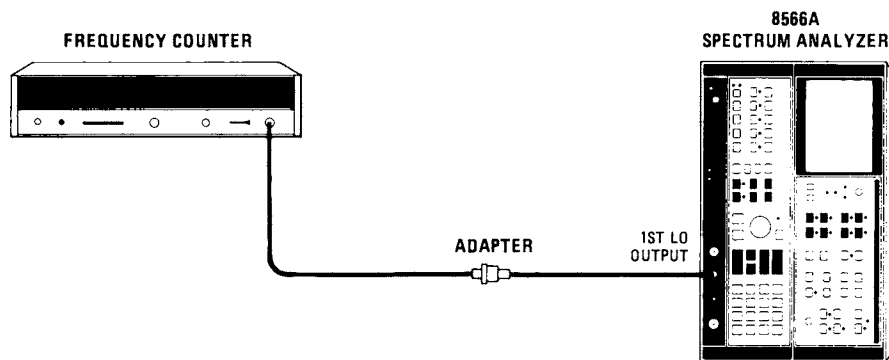

Figure 5-45. YTO Main Coil Driver Adjustment Setup
37. Connect frequency counter to front-panel 1st LO OUTPUT as shown in Figure 5-45.